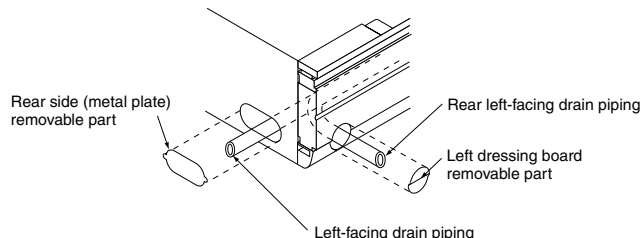

Fig. 20
(1) Rig drain piping
- The drain pipe outlet direction can be chosen from the right rear, right, left rear, and left. Refer to "REFRIGERANT PIPING WORK" for right rear and right direction, and refer to Fig. 20 for left rear and left direction.